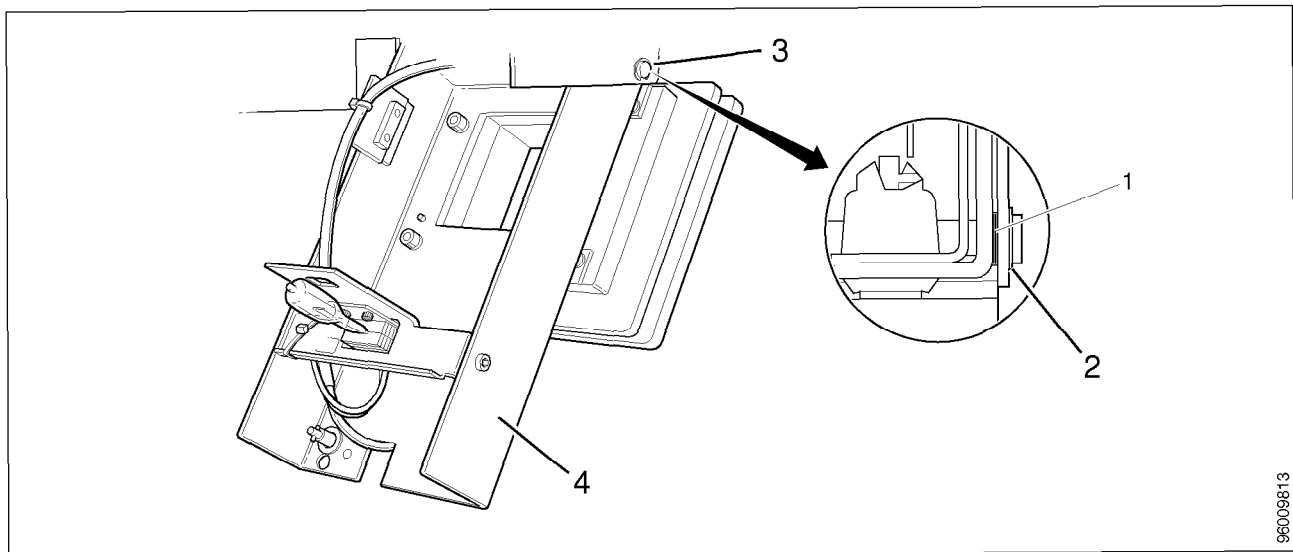

Fig. 2
- Remove (5/Fig.2, chap. 1) the cable ties and disconnect plug X894 (4/Fig.2).
- Remove the circlip (2/Fig. 2).
- Pull out the shaft (3/Fig. 2).
- Remove the collimator support (4/Fig. 2)
Note the number of spacers (1/Fig. 2) removed, as they must be reinstalled later on.